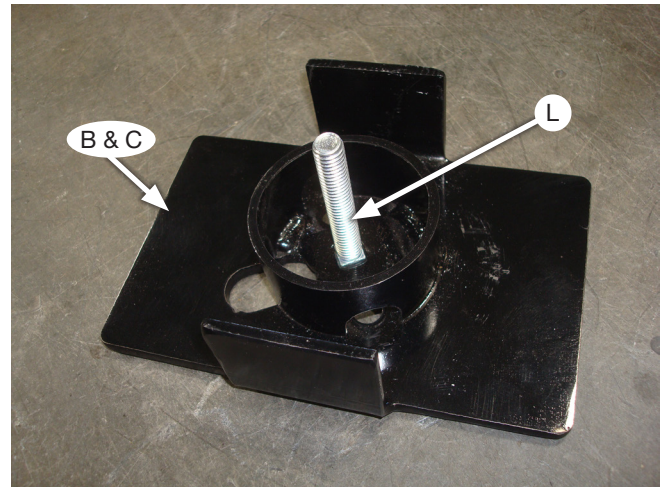

Fig. 9
2. Install the 3/8" Carriage bolts (L) through the bottom of the upper brackets (B and C) (Fig. 9).